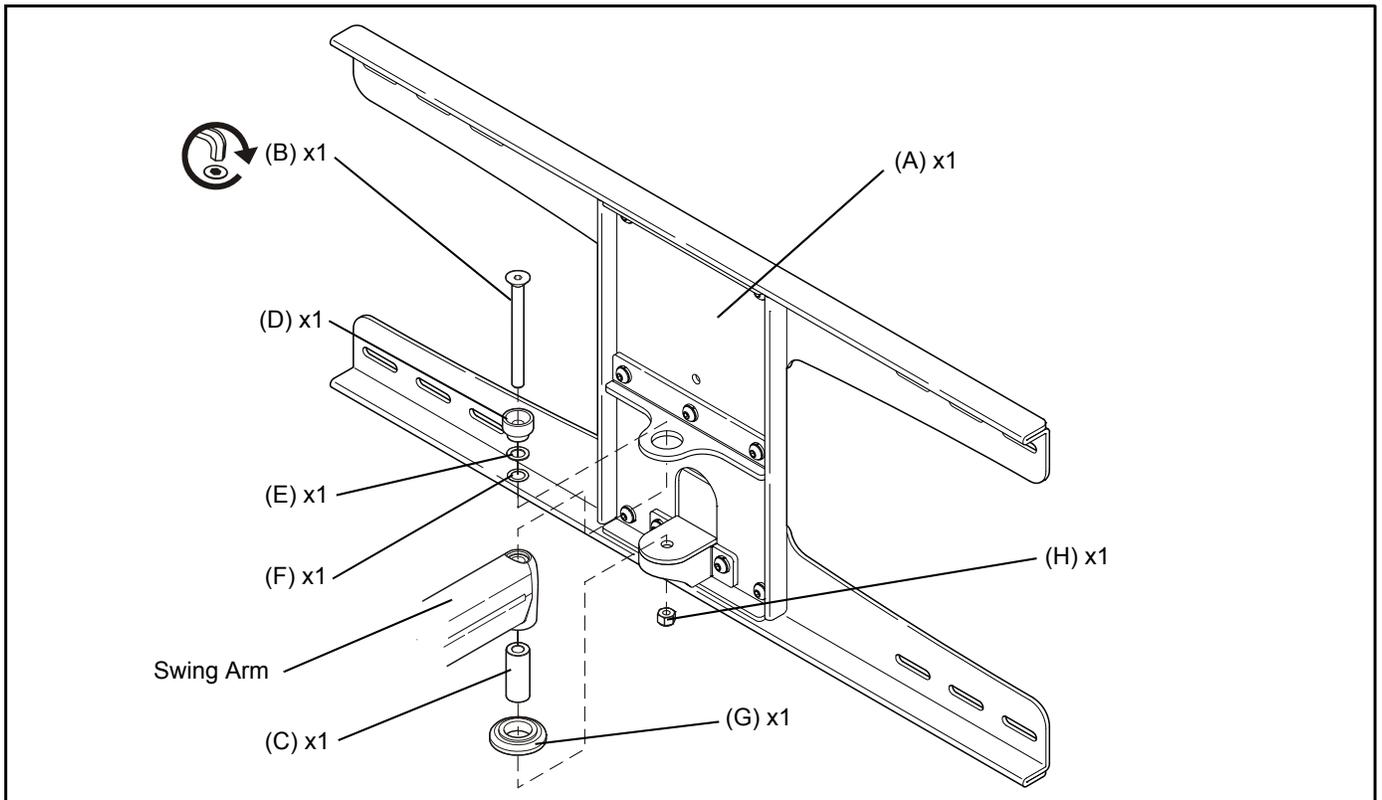

Figure 3
1. Orient swing arm so that it is positioned in front of mounting tabs on wall plate (A). (See Figure 3)
2. Slide inner stud (C) up into bottom of swing arm.
3. Place spacer (G) up against bottom of swing arm and hold spacer (G) and inner stud (C) in place.
4. Slide swingarm with inner stud (C) and spacer (G) between mounting tabs in wall plate (A).
5. Slide stepped spacer(D), spacer (E) and washer (F) onto flat head cap screw (B).
6. Slide flat head cap screw (B) with spacers (E) and washer (F) down into swing arm and through inner stud (C) and lower spacer (G).
7. Secure swing arm to mount using Nylock nut (H).